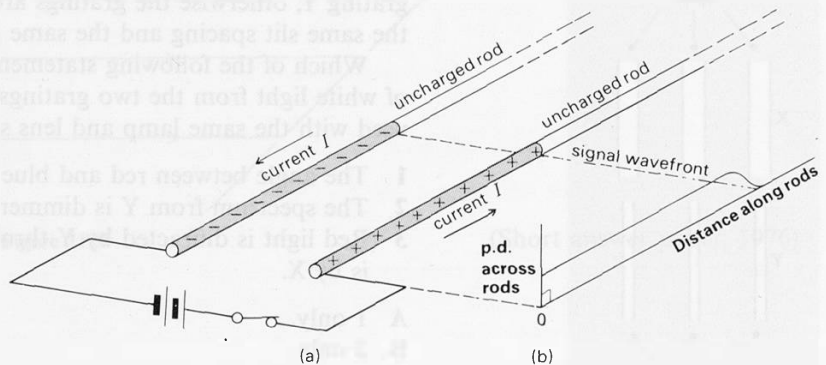

Figure J133
This question suggests some links between the 'tied' electromagnetic wave, moving charges, and travelling E - and B -fields. It uses a very simple geometrical arrangement similar to that in demonstration J18a, but with the essential difference that the signal applied to the guide is not oscillating; it is a step pulse produced when a battery is connected across the nearer ends of a pair of long metal rods, by closing the switch in the circuit shown in figure J133.
- a** When the switch is closed, positive charges move off the lefthand rod and flow onto the righthand rod, leaving them charged negatively and positively respectively. Figure J133 shows the charged regions a short time after the battery had been switched on. The speed of charge carriers in metal was discussed in Unit B, 'Currents, circuits,
- On a copy of figure J133, draw the electric field lines between the rods in the region where they are charged.